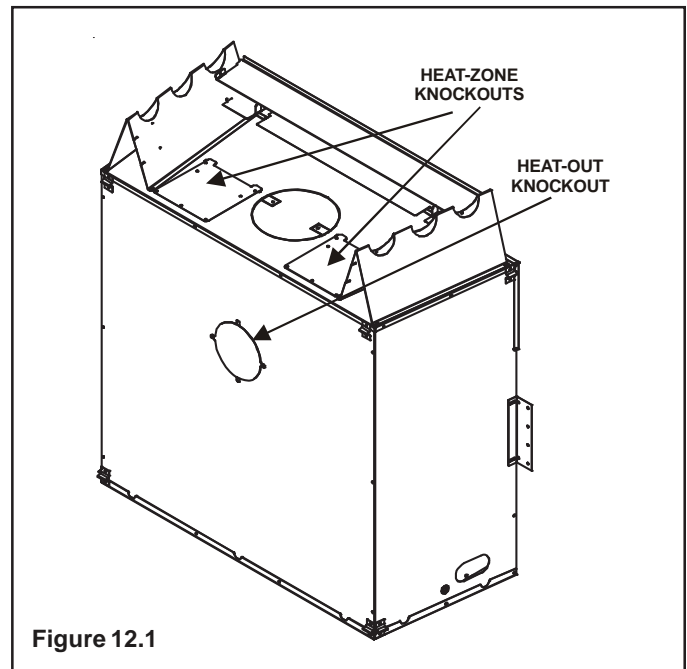

Figure 12.1
- Remove the Heat-Out knockout from the appliance and discard it (see Figure 12.1).
**NOTE:** Remove the bottom knockout on the collar for typical 2 x 4 inch or 2 x 6 inch wall construction (see Figure 12.1).
- Remove the knockout from the top of the appliance and discard it (see Figure 12.1).